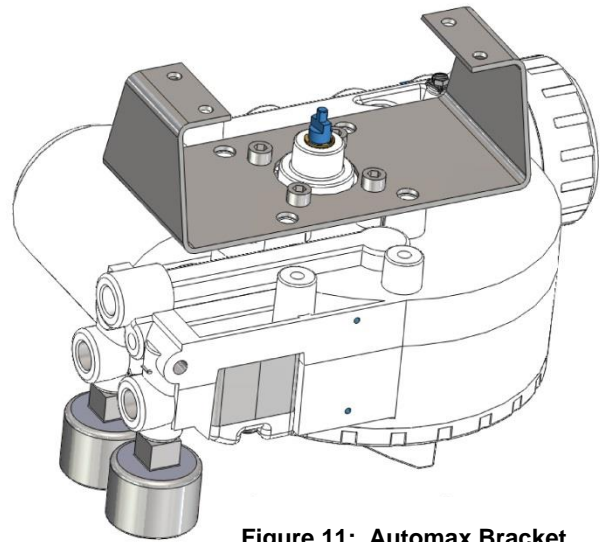

Figure 11: Automax Bracket
- 1 Attach the mounting plate to the positioner using 4 screws. See Figure 11.